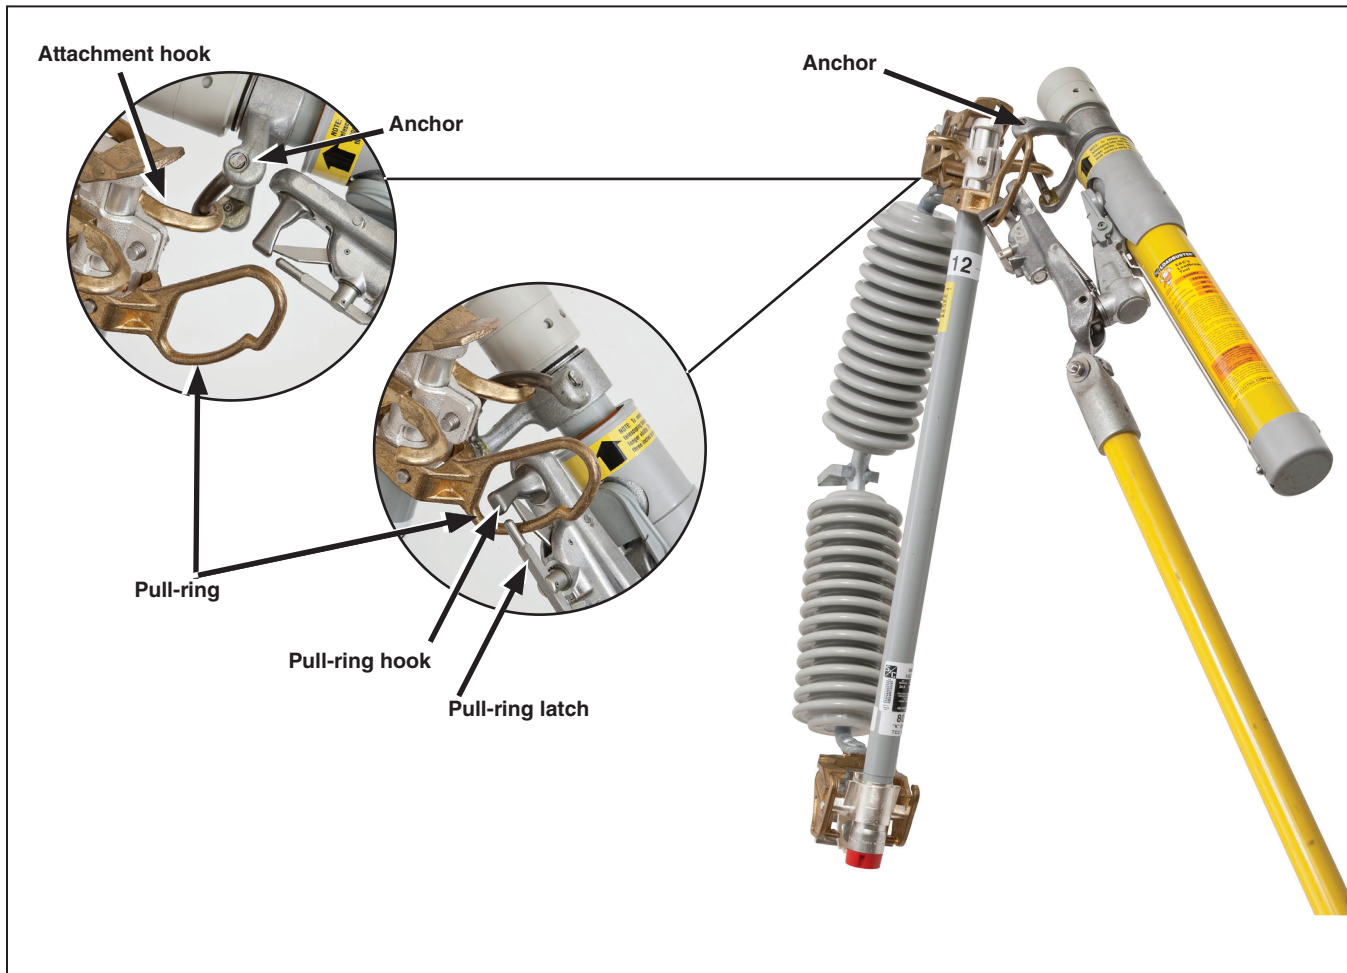
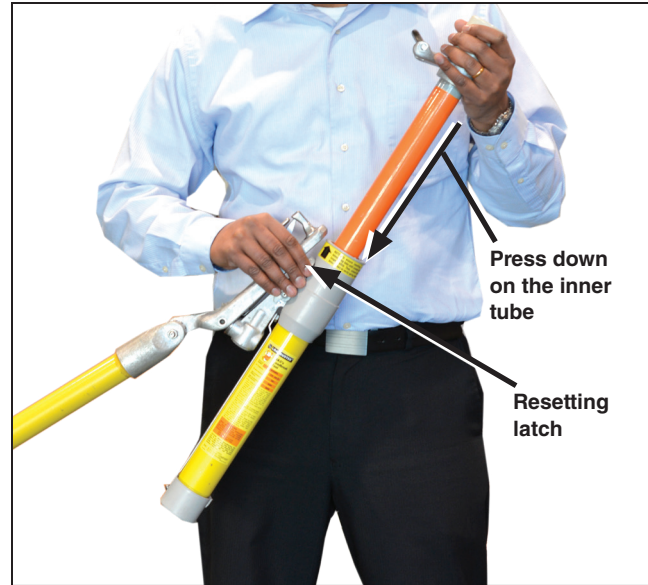

Figure 4. The Loadbuster tool connected to a Type SMD-20 Power Fuse, outdoor distribution.
Figure 7. Resetting the Loadbuster tool.
8. **RESETTING.** Keep hands clear during resetting. The Loadbuster tool is spring-loaded. Pulling the resetting latch will cause the anchor end of the tool to move down quickly. Keep hands in the position shown in Figure 7 on page 14.
Note: Although many words and illustrations are used here to describe the operation of the Loadbuster tool, correct techniques can be mastered quite easily. S&C advises spending a reasonable amount of time practicing with the Loadbuster tool on a de-energized fuse cutout, power fuse, fuse limiter, recloser, interrupter, or disconnect. The operating steps illustrated in Figure 4 on page 12 through Figure 7 on page 14, covering opening of a power fuse, apply equally to a fuse cutout, fuse limiter, or disconnect. For information on using the Loadbuster tool with the TripSaver® II Cutout-Mounted Recloser, refer to S&C Instruction Sheet 461-502. For information on using the Loadbuster tool with the VacuFuse® II Self-Resetting Interrupter, refer to S&C Instruction Sheet 465-500.
over the attachment hook on the far side of the power fuse. See Figure 4.
STEP 2. Swing the Loadbuster tool toward the power fuse and pass the Loadbuster tool pull-ring hook through the pull-ring on the power fuse. The pull-ring latch will deflect and, upon complete entry of the pull-ring, will spring back, locking the Loadbuster tool to the pull-ring. The Loadbuster tool is now connected across the upper contact of the power fuse. See Figure 4.
STEP 5. To reset the Loadbuster tool for the next operation, hold as shown in Figure 7. Extend the tool slightly and lift the resetting latch with the thumb. With the latch up, press down on the inner tube assembly until the tool is closed completely so the trigger can reset itself. When reset properly, the orange paint on the inner tube assembly will no longer be visible.
- STEP 5. *To reset the Loadbuster tool for the next operation:*** Hold as shown in Figure 7 on page 14. Extend the tool slightly and lift the resetting latch with the thumb. With the latch up, press down on the inner tube assembly until the tool is closed completely so the trigger can reset itself.